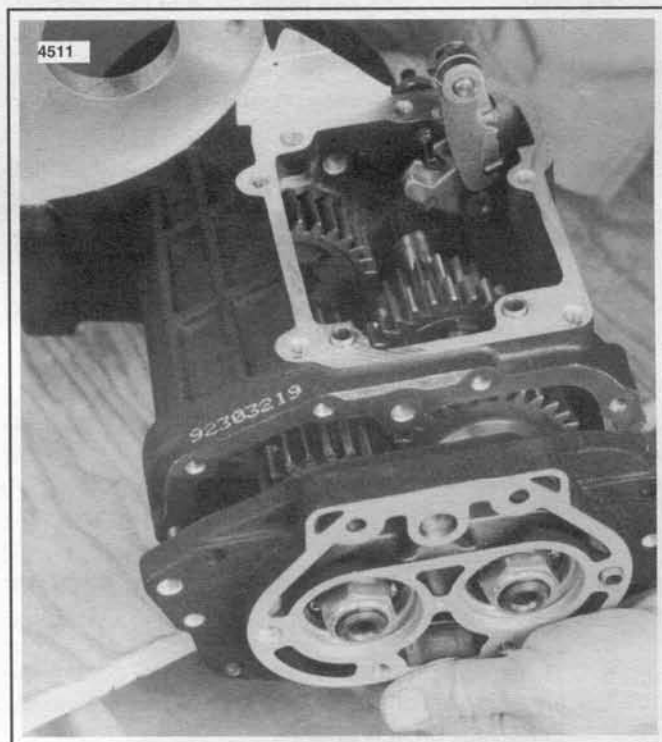

Figure 7-16. Remove Transmission Side Door
10. See Figure 7-16. Remove the transmission side door mounting hardware. Pry the side door loose and remove side door, mainshaft and countershaft from transmission case as an assembly.